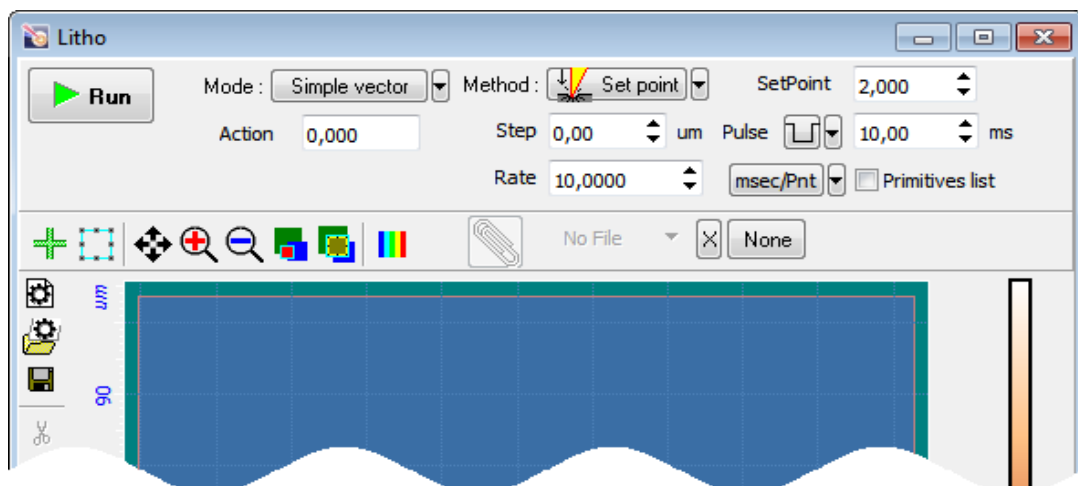

Fig. 12-12. Scanner extension progress bar
- d. Gradually increase **SetPoint** and monitor Z-scanner extension in the progress bar located in the Main Operations panel (Fig. 12-12). For the **SetPoint**, enter a value at which extension of the Z-scanner stops.